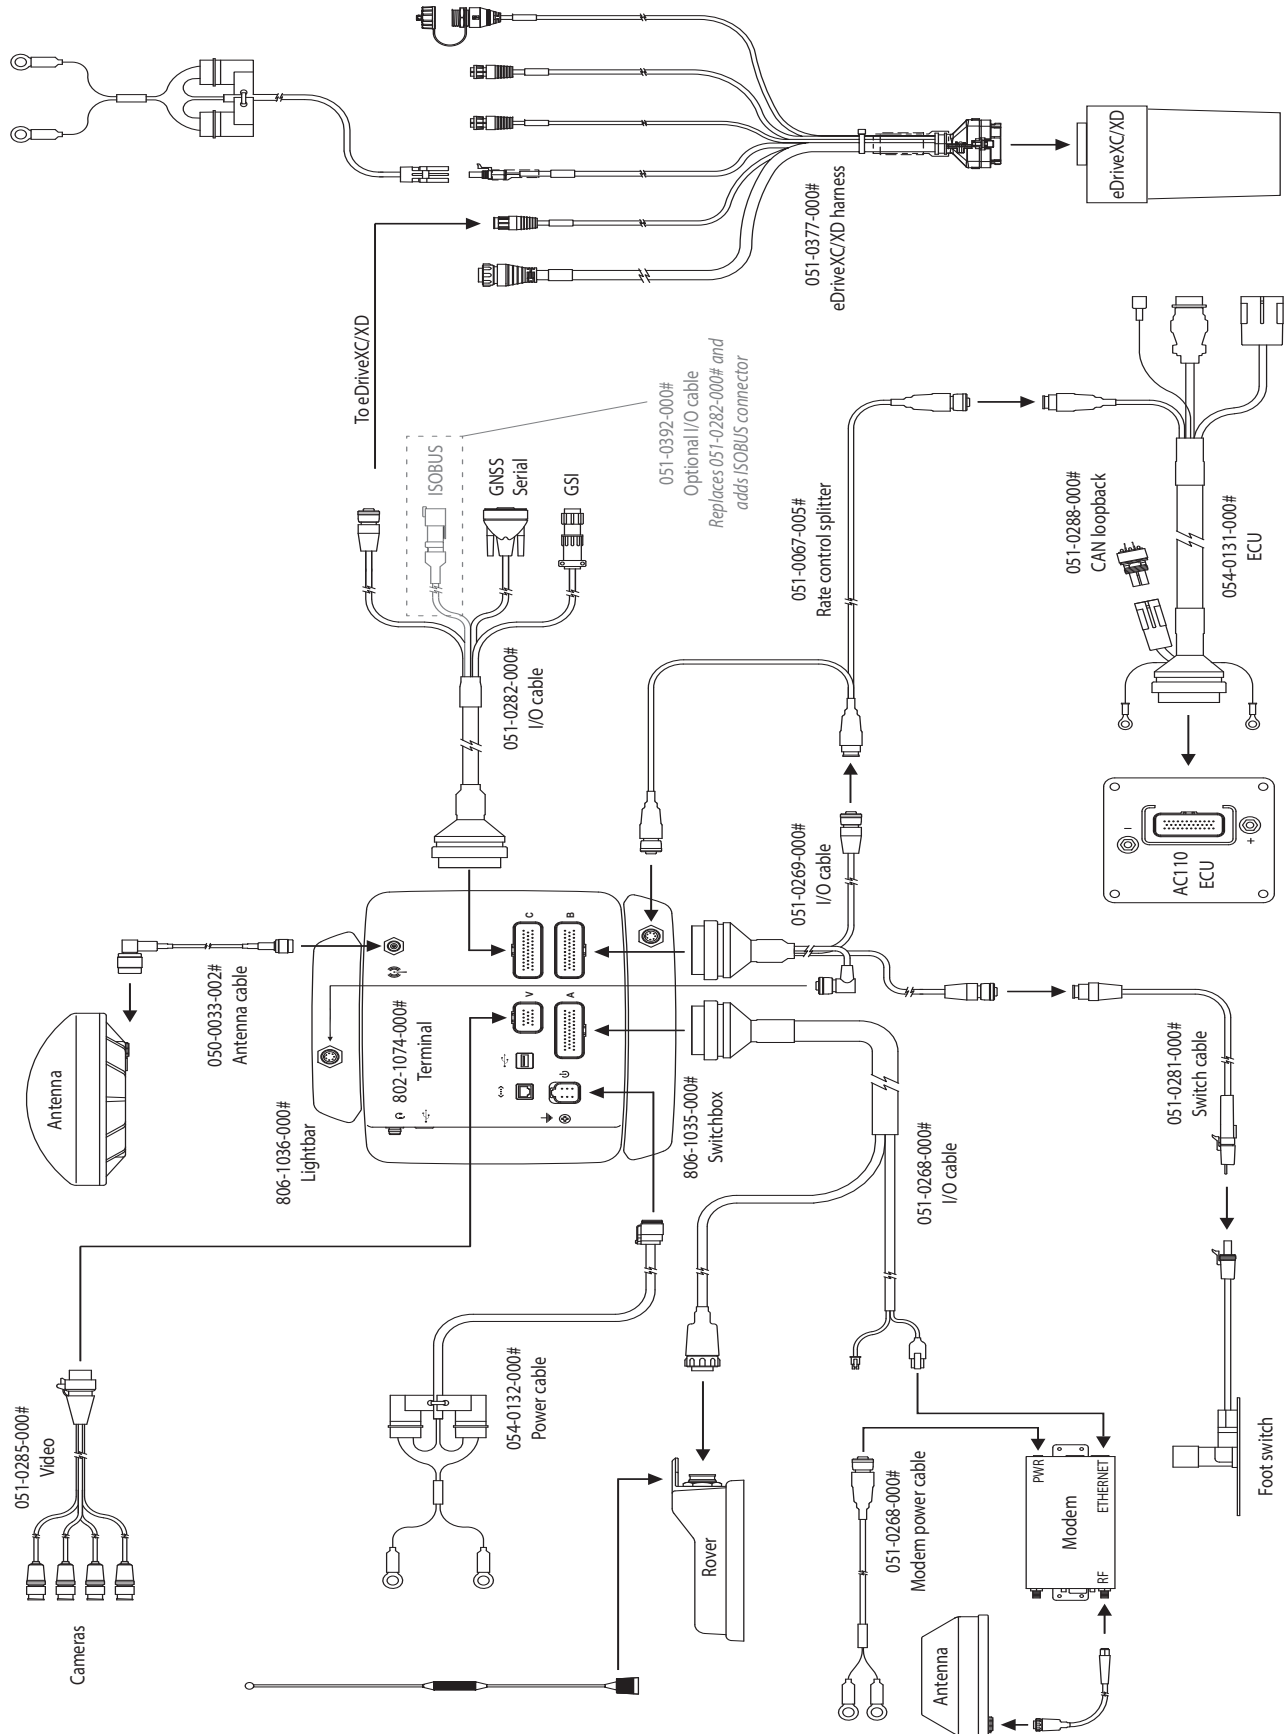

Figure 1: Outback MAX terminal (front and rear views)
Figure 1 shows the front and rear views of the Outback MAX terminal and Table 1 describes each numbered feature.
3. Attach the other end of the cable to the terminal (see Figure 1 on page 9 and "Connection Diagram" on page 10).
You can use the floor switch as a remote to pause or restart Outback MAX's mapping/data logging function. Using Figure 1 on page 9 and "Connection Diagram" on page 10 install the foot switch as follows:
3. Using Figure 1 on page 9 and "Connection Diagram" on page 10 as additional guides connect the appropriate I/O cable (051-0269-000#) to the lightbar.
2. Using Figure 1 on page 9 and "Connection Diagram" on page 10 as additional guides connect the rate control splitter cable (051-0067-005#) to the switchbox.